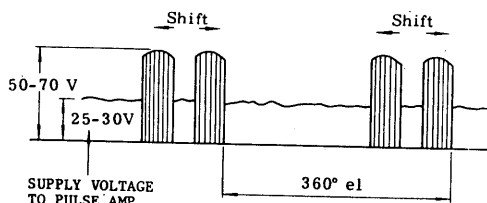

Fig. 25 PS Output Waveforms
Observe voltage waveforms by connecting a synchroscope to the following terminals on the control board. The waveforms can be changed by controlling the current reference or control of the rheostat PS CHK with turning the change-over switch PS CHK to TEST. When these waveforms are exactly alike in shapes as the waveforms shown in Fig. 25, PS output is deemed sufficient.
- Check by a synchroscope ... (On-load test). The test is carried-out to find a faulty thyristor by checking of voltage waveforms across the terminals A and K. See Fig. 25.